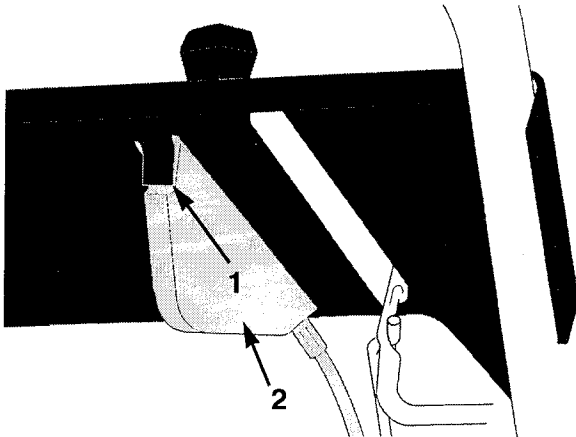

Figure 67
- D. While flexing the tab under the control panel away from the shift control, remove the control from the panel. Completely remove the shift control and do not use it again.(Fig. 67).
- B. Push the shift control into the slot in the control panel until it snaps into place (Fig. 67).